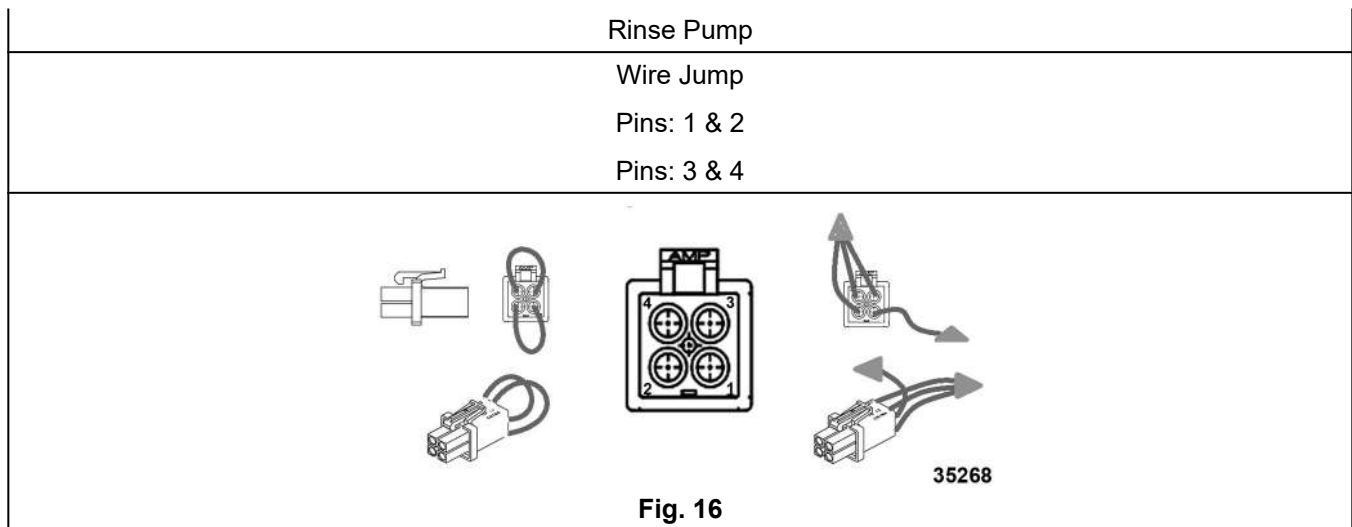

Fig. 16
- Determine model and use correct model designator (Fig. 16) in model designation connector on control board.